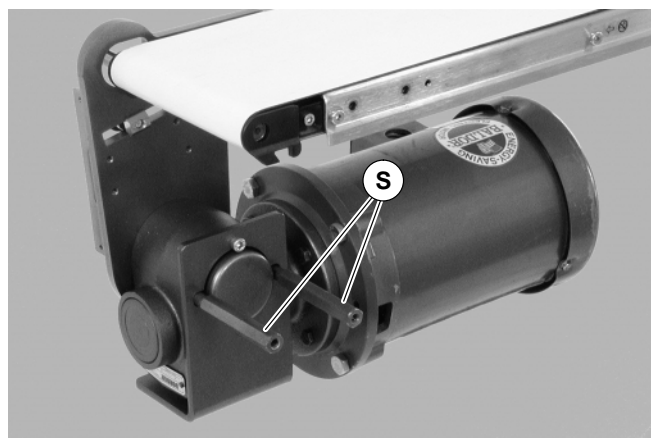

Figure 20
5. Remove hex support posts (S of Figure 20).